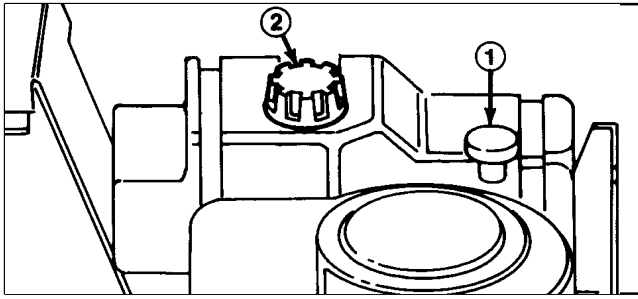

Figure 6
2. Unscrew and remove the dipstick from the oil fill tube (Fig. 6).
- 1. Clean area around fuel tank cap so foreign matter cannot enter tank when cap is removed (Fig. 6).